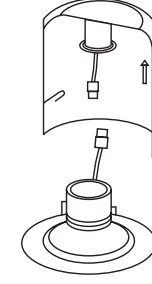

Figure 4.2
6. Plug male end of orange connector on LED Retrofit Trim into the female end of orange connector on screw base adapter (Fig 4.2 and 4.3).